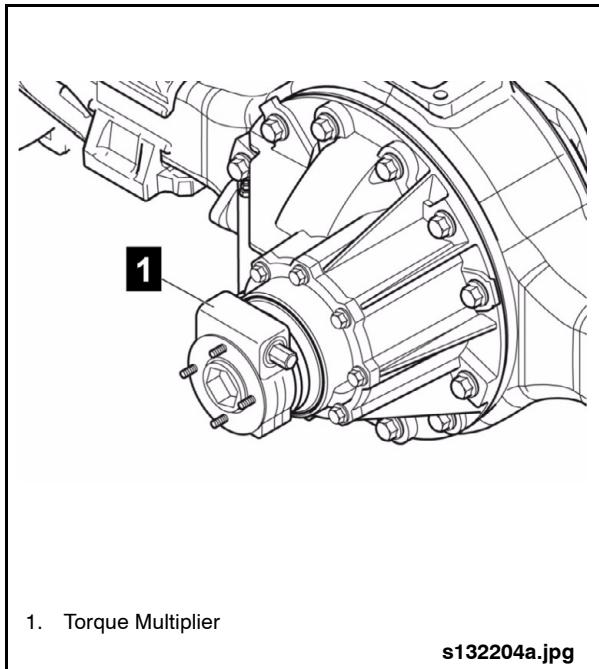

Fig. 2-33: Removing Slotted Nut
1. Loosen the slotted nut using the torque multiplier. The slotted nut must be turned counter-clockwise to loosen. See "Fig. 2-33: Removing Slotted Nut" on page 33.